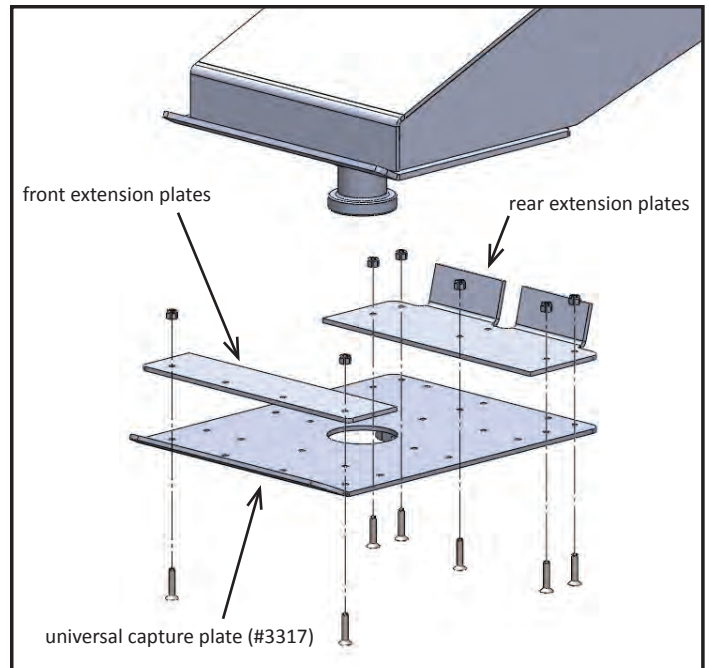

Figure 1
3. Attach the front and rear extension plates to the Universal Capture Plate with two fasteners each and the rear extension plate with five fasteners as shown in Figure 1.